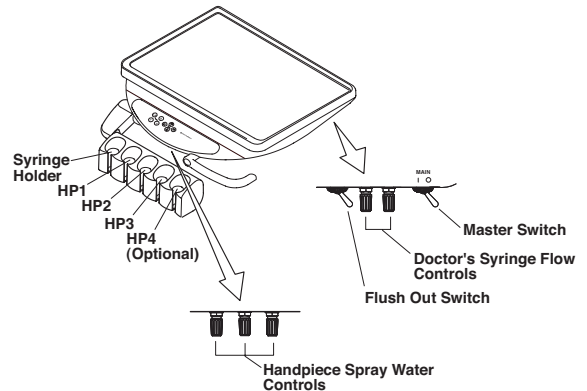

Fig.3-16 Doctor Table Section Controls
A. Handpiece Spray Water Controls (Fig.3-16)
B. Doctor's Syringe Flow Controls (Fig.3-16)